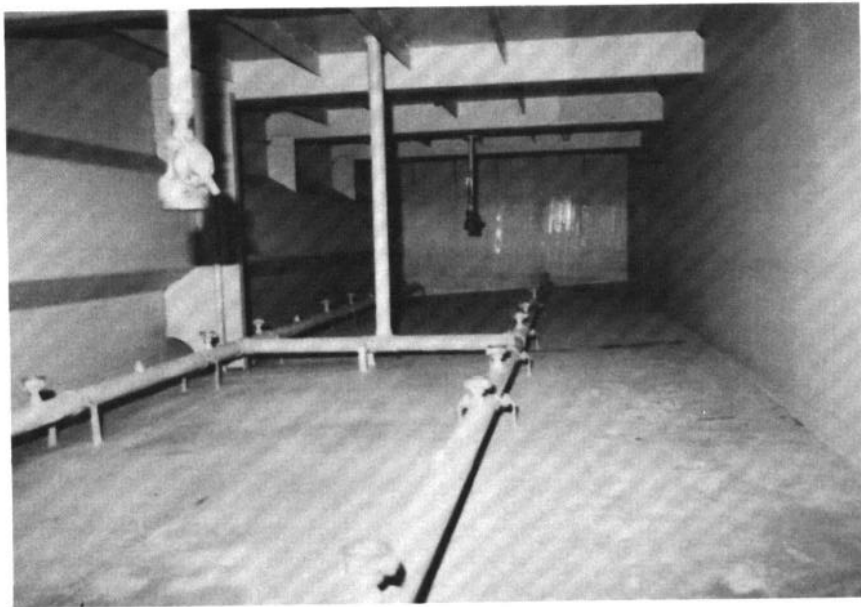

FIGURE 2-11
2.3.4 TANK AIR DISTRIBUTION MANIFOLD. Air is distributed to the bottom of each cargo tank by a 3-inch pipe manifold. The manifold is in an "H" configuration and mounted 6 inches off the bottom of the tank, as shown in Figure 2-11. At 5-foot intervals along the pipe are FMC Discfuser diffusers which mix the air into the sewage.